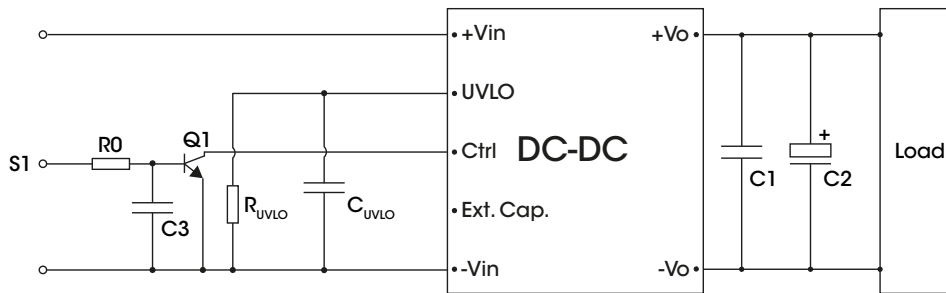

Figure 6. Recommended circuit for Ctrl negative logic
4. Recommended circuit for Ctrl negative logic refer to Fig. 6.